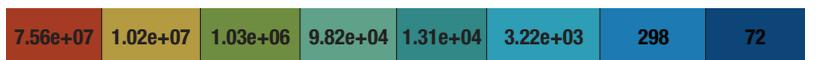

Figure 50. Results plate map with heat map display (Panel A) and example of heat map colors applied to the results in the plate map (Panel B).
- Once the protocol is finished, results are shown in a heat map format to indicate wells with higher or lower signals in comparison to the entire plate (Figure 50, Panel A). The software automatically scales the color selection, assigning the highest values red and the lowest values blue, along a gradient (Figure 50, Panel B). To turn off the heat mapping of the data, touch the small plate map button at the top right side of the information bar above the data plate map. Touch the ellipsis to the left of the small plate map button to enter notes that will appear in the information bar.
- a. To analyze data, tap the **Analysis** button (bottom left corner of screen in Figure 50, Panel A). Analysis functionality is described in Section 3.F, Analysis of Results. For certain result types (e.g., protocols containing kinetic reads), the **Analysis** button will be inactive because analysis is not supported for these protocol types.
- b. To export data, tap the **Export** button (bottom left corner of screen in Figure 50, Panel A). The software will export the data to the manual export folder specified by the Administrator settings (see Section 3.H, Administrator Settings). By default data is exported in the following formats: a comma-separated value (.csv) file and a GloMax[®] portable data format (.raw) file. Depending on administrator settings, the data can also be exported as a Microsoft Excel[®] workbook (.xlsx) file and a Portable Document Format (.pdf) file. When interfacing with a laboratory information management system (LIMS), we recommend using the .csv file and importing according to your LIMS software guidelines. After export is complete the ‘Export’ screen is displayed (Figure 53). Tap the **Open** button to open the export location in a Windows[®] file browser, or tap the **Done** button to exit the ‘Export’ screen and return to the results plate map.